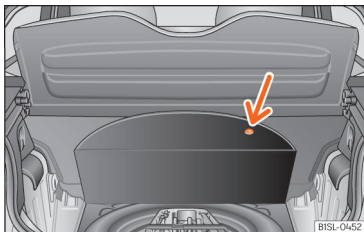

Fig. 78 In the boot: carpet raised.
The vehicle tool kit, spare wheel, temporary spare wheel and the tyre mobility set are stored in the luggage compartment under the carpeted floor panel » **Fig. 78**.
- Raise the carpet at the recess (arrow) » **Fig. 78**.